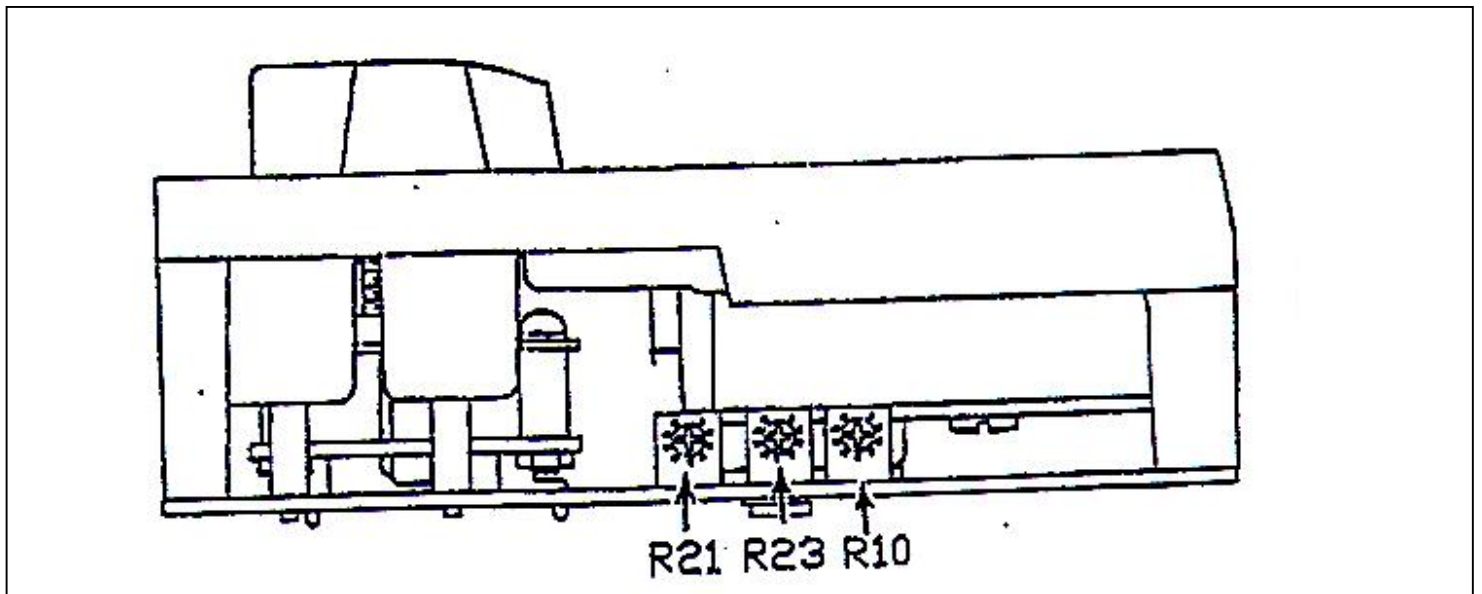

Figure 1 Calibration Adjustments
- C. Figure 1 - Calibration adjustments